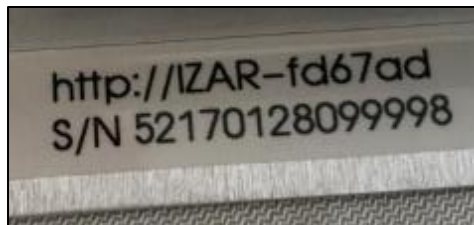
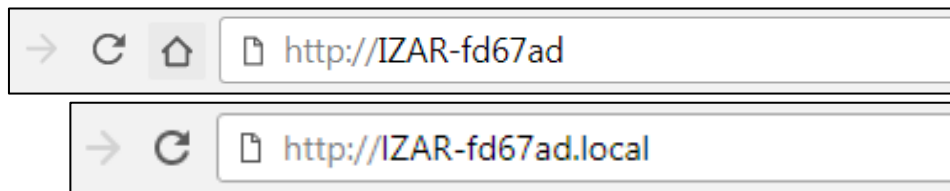

Figure 5: Host Name on Reader
Figure 6: Entering Host Name as URL
5. Enter the URL of the reader, printed on a label as shown in Figure 5 into your web browser (Figure 6). **If the IZAR Reader is directly connected to a PC, append “.local” to the URL.** When prompted, enter “web” as the username and “radio” as the password. After a few moments, you will be connected to the IZAR status screen.